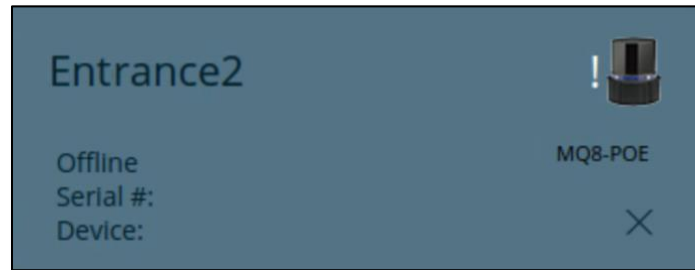

Figure 12. Q-View Scan Displays Offline Sensors Even Without Network Connection
- Previously labeled sensors might appear in an **Offline** (gray) state. See Figure 12. Q-View Scan Displays Offline Sensors Even Without Network Connection.